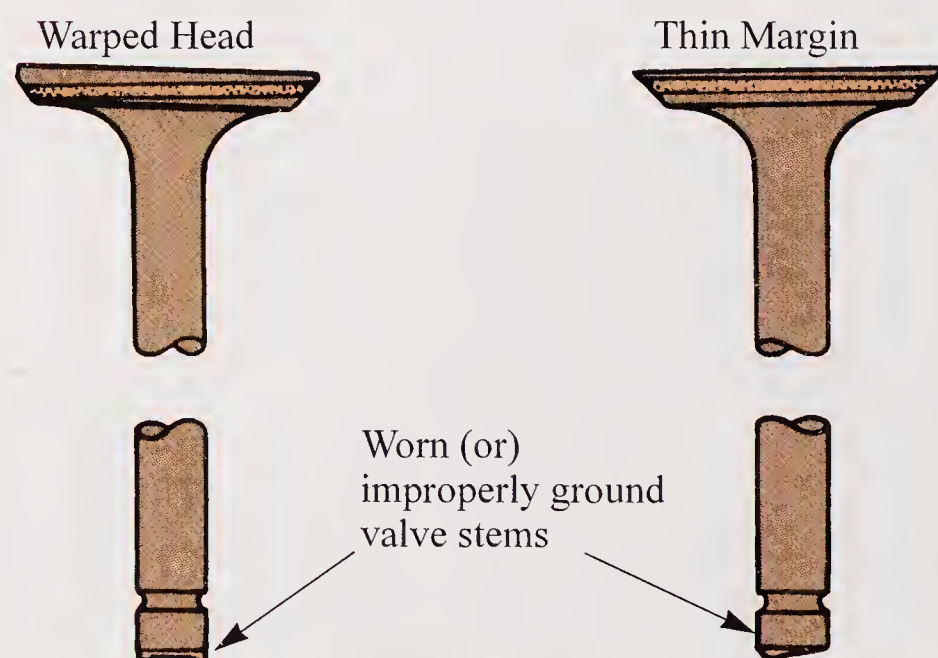

Figure 17-29. Warped valve head, thin margin, or worn stem may mean refacing or replacement is needed.
2. Warped head. See **Figure 17-29**.
3. Worn or improperly ground valve stems. See **Figure 17-29**.